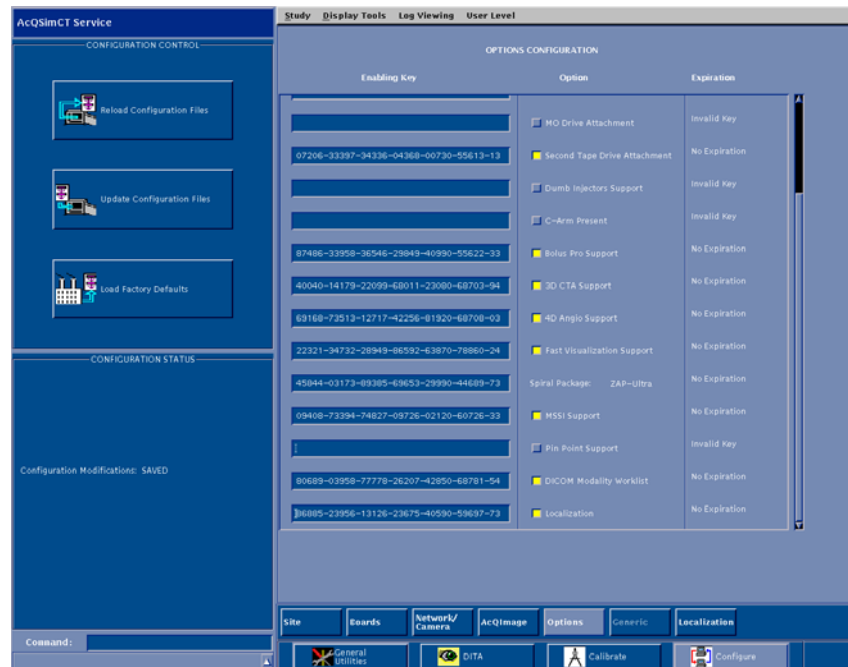

FIGURE 2 GATING AND LOCALIZATION
5. Select **Update Configuration Files** to save information. Note the Gating button at the bottom of the screen will become active. See Figure 2.
5. Select **Update Configuration Files** to save information. Note the Localization button at the bottom of the screen will become active. See Figure 2.